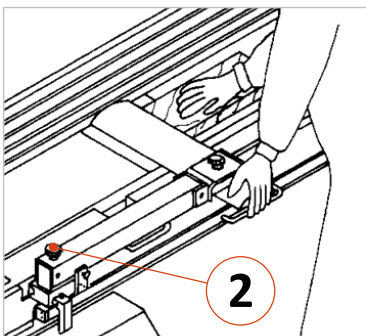

Figure 22: Surface planing preparation
- The bridge guard is struck with the left hand up to the workpiece fence and adjusted in height by turning handle (2) according to the thickness of the workpiece.
- With the right hand, the workpiece is pushed just under the bridge guard. The hand remains on the workpiece (⇒ Figure 22).